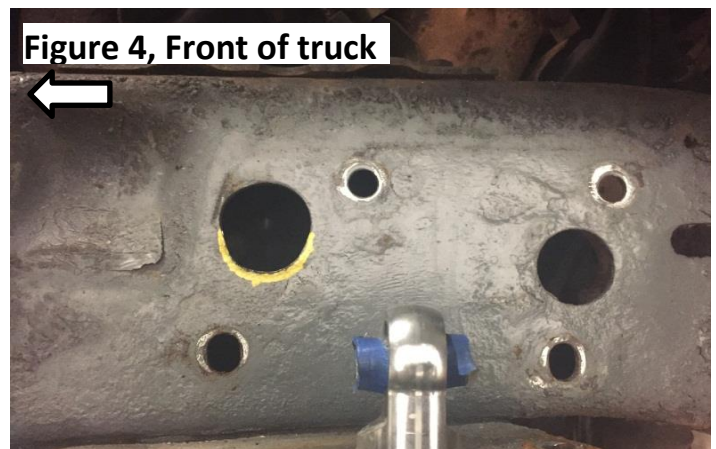

Figure 4, Front of truck
1. The 1 1/4" hole towards the front of the truck will need to be elongated downwards about 1/8" for bolt head clearance on the QA1 upper coil-over mount. See **Figure 4**.